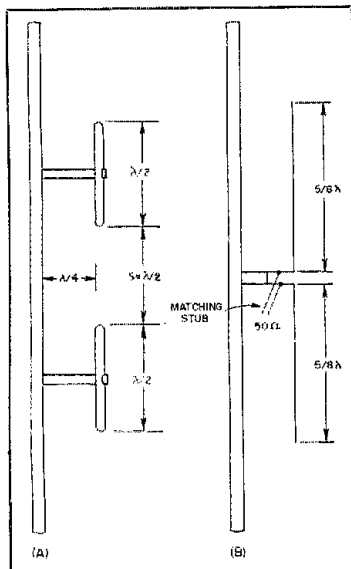

Fig. 1 — Collinear vertical antennas compared by author Belrose.
Frank Noble, W3MT, informs us that there was an error on the schematic diagram for his I.-C audio oscillator (Fig. 1, page 25, June 1982 *QST*). The capacitor at position B under S3 should be 0.1 μ F. If you are building this oscillator and cannot find any of the scarce 44-mH toroids, Frank is redesigning the circuit to use all unpotted 88-mH units. He will send a revised schematic diagram to anyone who writes and includes an s.a.s.e. Frank Noble, W3MT, 10004 Belhaven Rd., Bethesda, MD 20817.
□ I needed a secure mount for my mobile station. The plastic dashboard of my new car did not seem strong enough for a conventional under-the-dash mount. An installation in a police cruiser gave me the idea for a desk-on-the-seat mount, as shown in Fig. 1. The front panel extends from the seat to the floor, and supports the box. A mobile mounting bracket fastened to the front piece places the rig in a convenient position. An extra bracket even allows two radios to be stacked piggy-back style. The box is used to store extra paper, pencils and other small items. A clipboard is attached to the top for writing.
Fig. 1 — This photo shows the completed mount, with one radio attached. Note the extra mounting bracket for a second rig. You may have to shape the front piece to fit the transmission hump in your car.